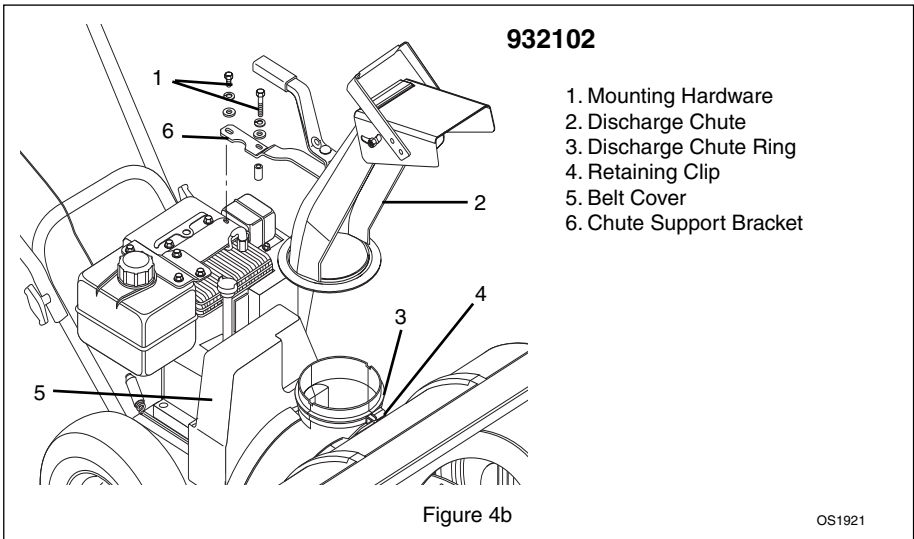

Figure 4b
1. Grease discharge chute ring if not already greased (Figure 4b).